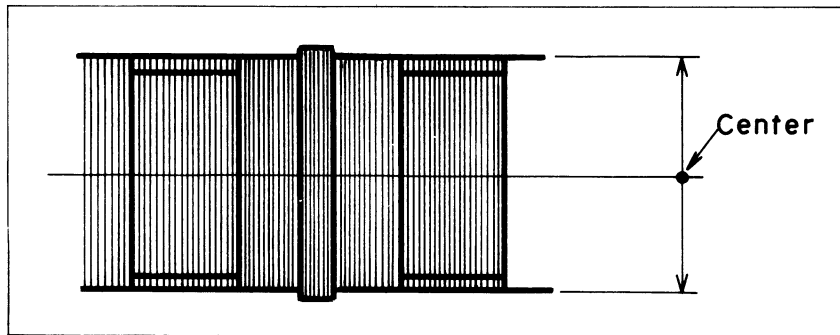

Fig. 5-60. MOD output waveform
- Set the VTR to the recording mode and adjust R1 (Record-FM Balance) and C4 (FM OSC Balance) in the FM modulator unit, alternatively, so that the waveform becomes symmetrical to the center as shown in Fig. 5-60.